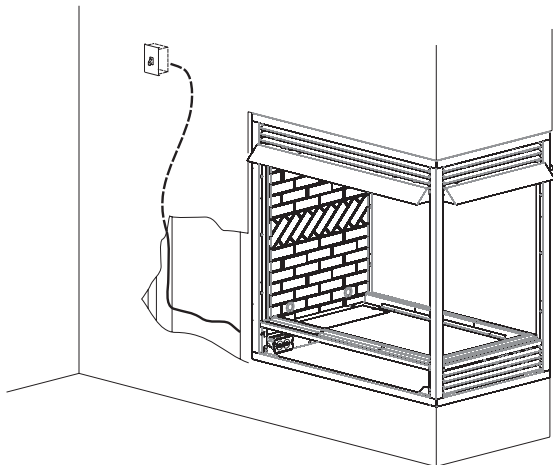

Figure 8 - Flush Or Louvered Models
To install the blower kit, access the junction box, or install a light kit, remove the access cover plate and/or lower louvers or flush panels as illustrated by **Figures 8 and 9**.
11. Replace blower access plate and louvers or flush panels. **See Figures 8 and 9.**